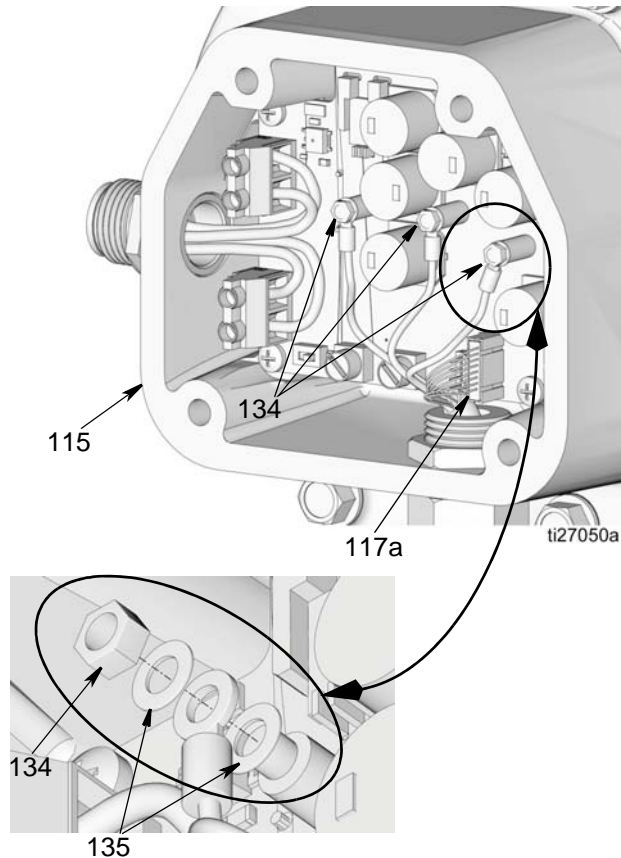

FIG. 61
5. Match green, yellow and blue wires to terminals of same color (written on the motor control board). Secure wires to terminals using washers (134 and 135) (FIG. 61). Torque to 8-10 in. lbs (0.9 - 1.1 N.m).
6. Connect sensor cable (117a) (FIG. 61).
7. Replace control board gasket (119) and cover (120) with screws (116) being careful not to pinch any
3. Match green, yellow and blue wires of motor to terminals of same color (written on the control board). Secure wires to terminals using washers (135) and nuts (134) (FIG. 61). Torque to 8 - 10 in. lbs (0.9 - 1.1 N.m).